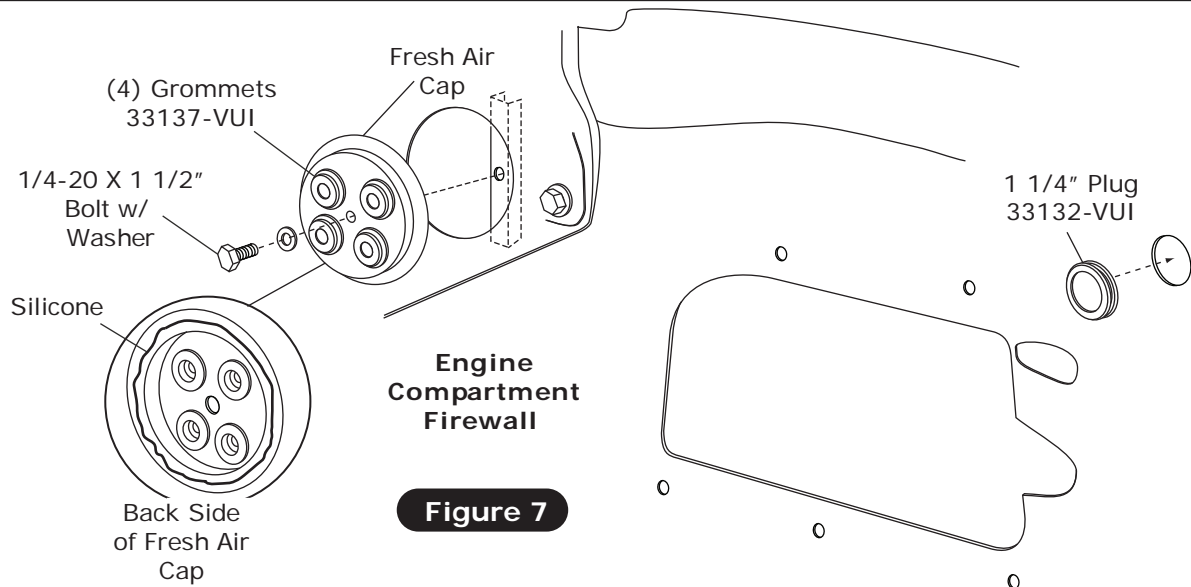

Figure 7
1. Install (4) grommets in fresh air cap (See Figure 7, below).
2. Apply a 1/4" bead of silicone around the back side of the fresh air cap as shown in Figure 7, below.
3. Attach fresh air cap to firewall using a 1/4-20 x 1 1/2" bolt and washer, see Figure 7, below. **NOTE: Fresh air cap installs on engine side of firewall.**
4. Install 1 1/4" plug in firewall (See Figure 7, below).